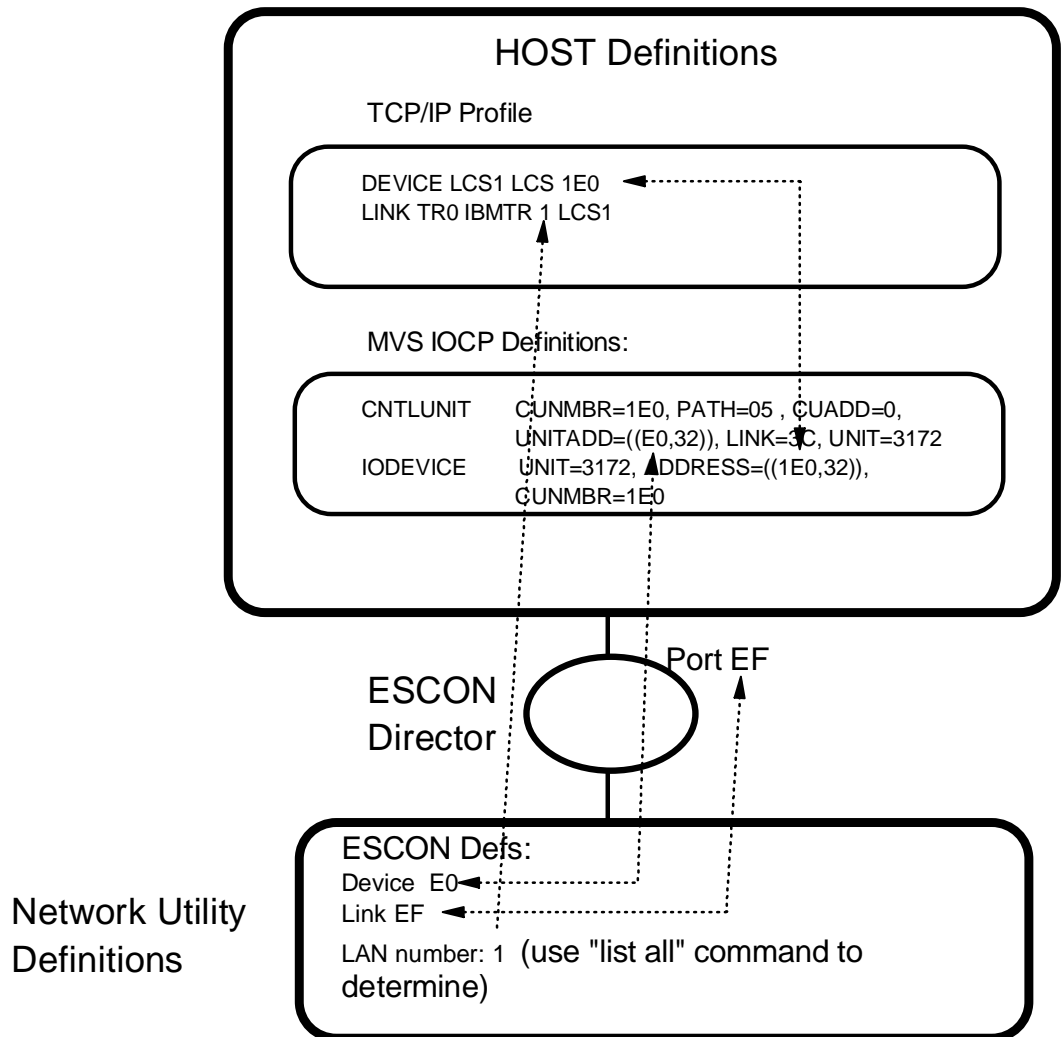

Figure 14-6. Host/Network Utility Parameter Relationships - LCS
Figure 14-6 on page 14-10 shows how the parameters correlate between the host and the Network Utility for an LCS interface definition.
2. The device address specified in the Network Utility LCS interface definition must be within the range specified in the UNITADD parameter in the CNTLUNIT macro from the IOCP. For example, the UNITADD parameter in Figure 14-6 shows that 32 (decimal) device addresses starting at E0 (hex) are being reserved for the Network Utility definition. A device address of E0 has been specified for the Network Utility LCS interface. The Network Utility will automatically allocate E1 also. Since E0 and E1 are in the range between E0 and FF hex, this is OK as long as no other device (or interface on this Network Utility) tries to use these same subchannels.
profile in Figure 14-6 is 1E0 hex, which is in the range between 1E0 and 1FF that the ADDRESS parameter in the IODEVICE statement specifies.